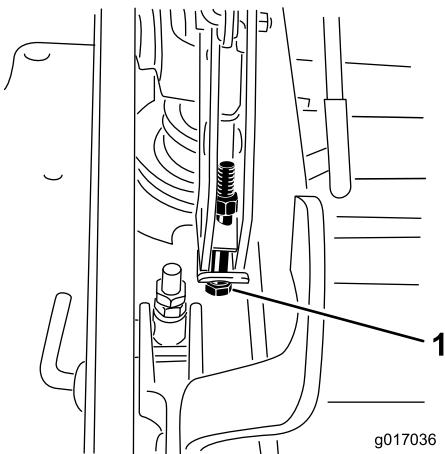

Figure 88
- If the deck is too low, tighten the single point adjustment bolt by rotating it clockwise. If the deck is too high, loosen the single point adjustment bolt by rotating it counterclockwise (Figure 88).